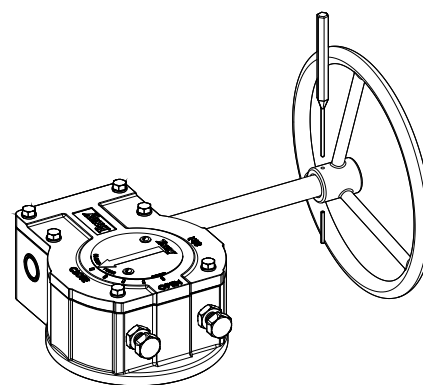

Figure 2
- 1.1 Insert the punch into the hole and then carefully advance the punch with a hammer until the slotted pin exits the other side. If done properly, the assembly will not be damaged. See **Figure 2**